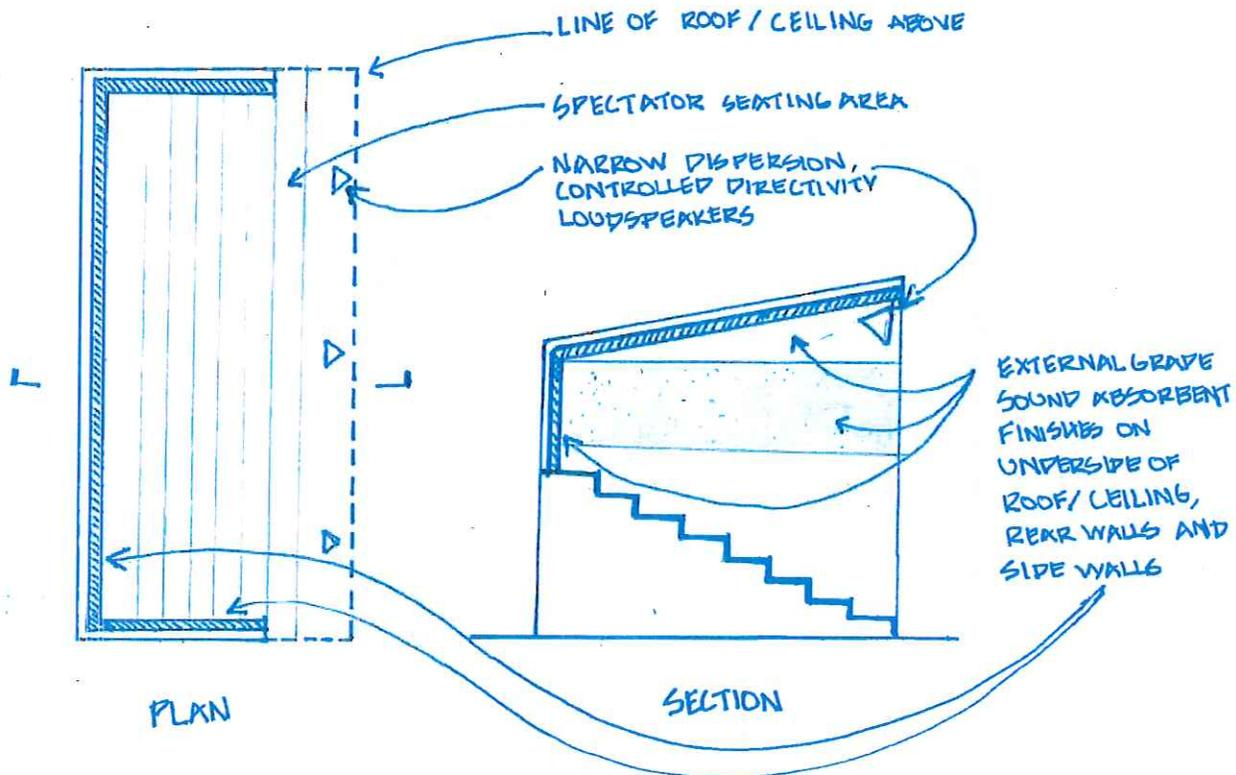

Figure 2. Concept sketch of sound absorbing enclosure for spectator seating areas.
The spectator seating areas would be designed similar to the prefabricated metal seating sections currently on site in shape. An insulated metal panel roof, side walls and rear walls would be added to enclose the seating on 4 sides. The side and rear walls of the enclosure and the underside of the roof/ceiling would be lined with sound absorbent finishes suitable for exterior environments. Narrow dispersion, controlled directivity loudspeakers would be mounted under the roof/ceiling structure pointed back at the spectators so sounds would travel short distances to the seated spectators so the volume of the loudspeakers could be controlled. The sound propagating from the loudspeakers to the spectators would strike the absorbent rear and side walls of the enclosure or the seated spectators and be absorbed greatly reducing off site noise propagation from the loudspeakers. A concept sketch of this solution is shown in figure 2.
10. The new pool complex should be located so that the spectator seating area and the new pool building along with a noise mitigating wall enclose the pool to reduce off site propagation of sounds from swimming events. The spectator seating area would be designed similar to that described in item 6 for the sports fields. The loudspeakers for the facility would also be located as shown in figure 2.